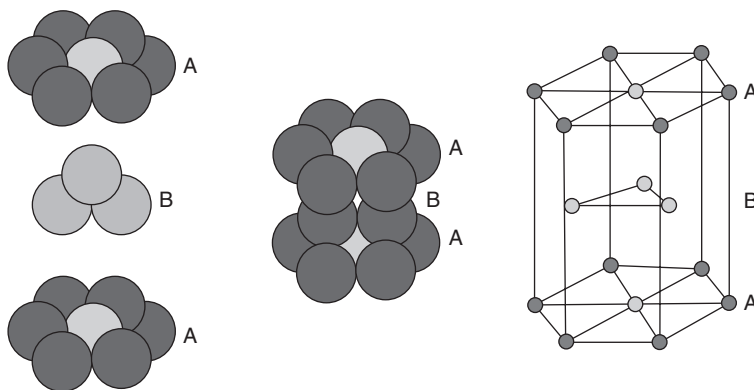

Figure 11 Hexagonal close packing (ABAB...).
1. The spheres of the third layer can be placed in the voids of the spheres of second layer such that they are exactly in the same positions as the spheres of first layer as shown in Figure 11. If the spheres of first layer are labeled as A, those of second layer as B, then the third layer is also labeled A. Hence the pattern in this type of packing is ABABAB... and is called **hexagonal close packing** or **hcp**. Each atom in an hcp lattice is surrounded by and touches 12 nearest neighbors, six are in the planar hexagonal array (B layer), and six (three in the A layer above and three in the A layer below) form a trigonal prism around the central atom.